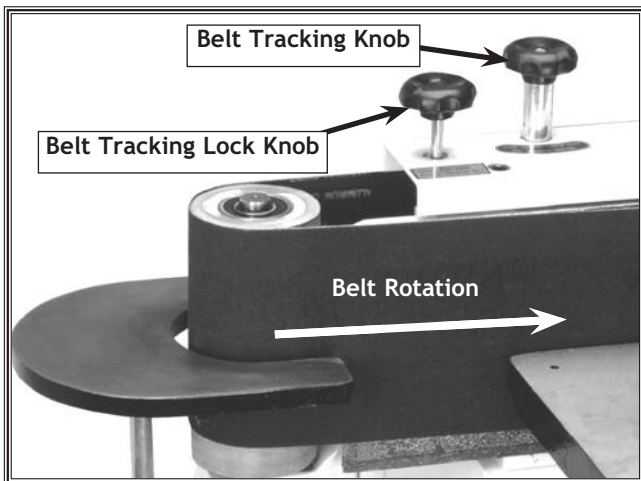

Figure 29. Belt tracking lock knob and belt tracking knob.
2. Loosen the belt tracking lock knob. See **Figure 29**.
3. With the sander unplugged, turn the belt tracking knob in either direction while you rotate the sanding belt. See **Figure 29**. The belt will track higher or lower depending on which direction you turn the belt tracking knob.